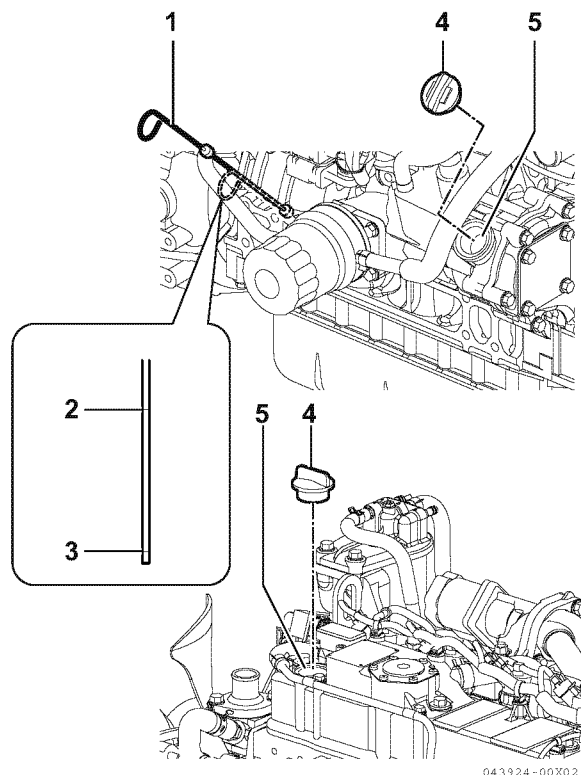

Figure 3
2. Remove dipstick (1, **Figure 3**) and wipe with clean cloth.
4. Remove dipstick. The oil level should be between upper (2, **Figure 3**) and lower (3, **Figure 3**) lines on the dipstick.
2. Remove oil cap (4, **Figure 3**).
3. Add indicated amount of engine lubricating oil at the top or side engine lubricating oil filler port (5, **Figure 3**).
6. Reinstall oil cap (4, **Figure 3**) and hand-tighten. Over-tightening may damage the cap.